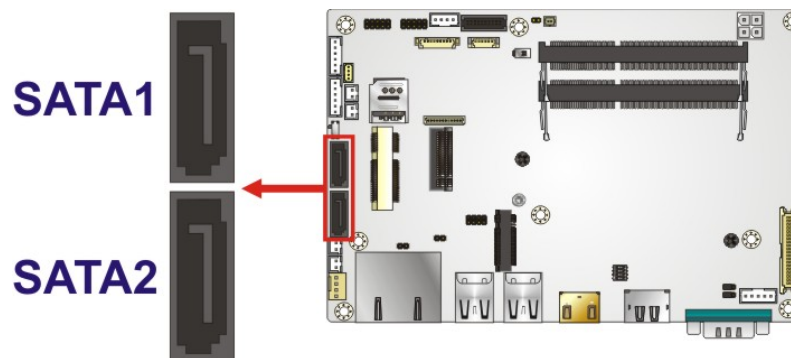

Figure 3-20: SATA 6Gb/s Drive Connectors Locations
- CN Location:** See **Figure 3-20**